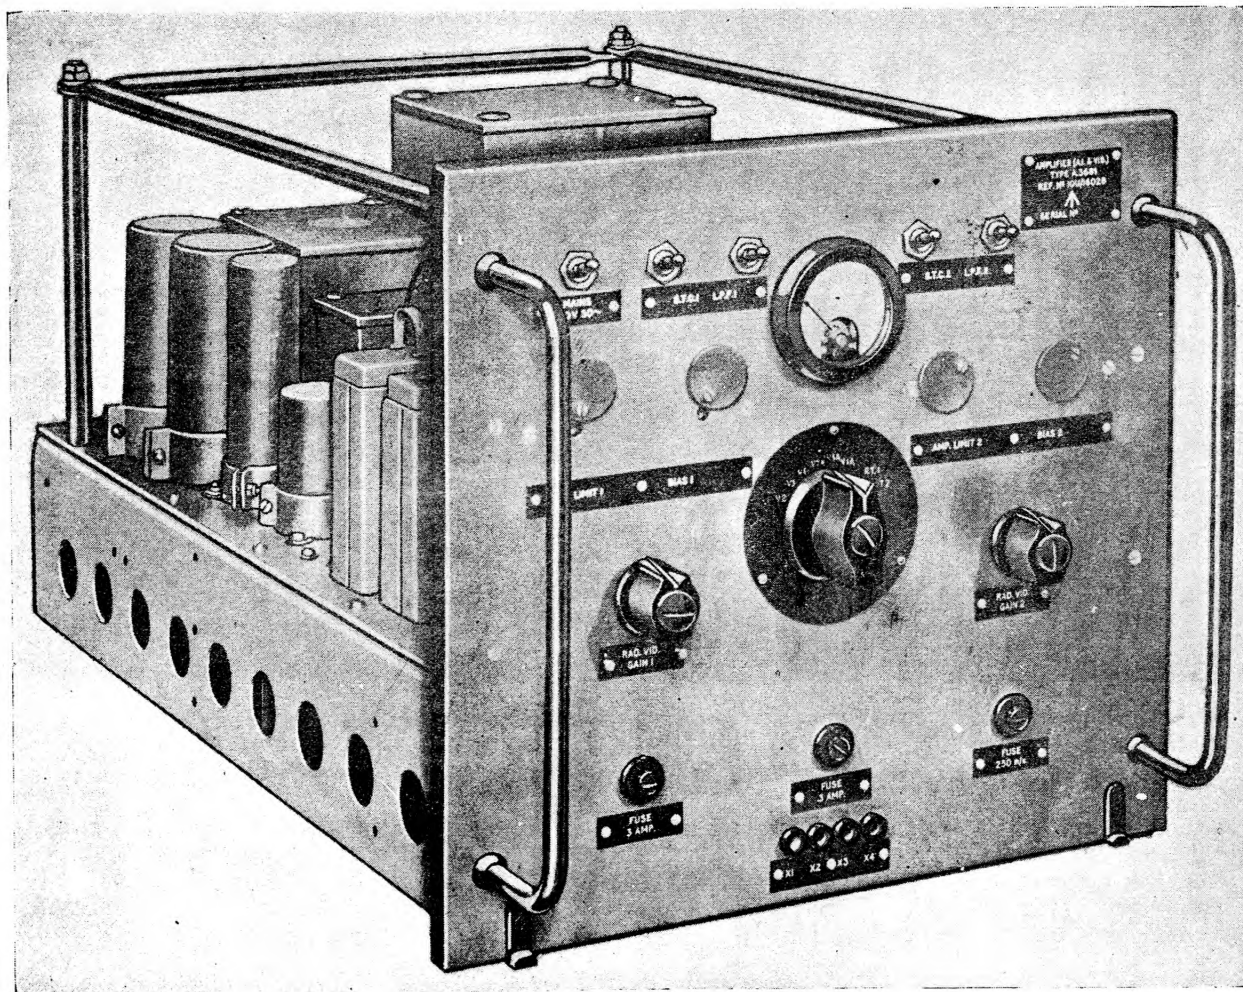

Fig. 1. Amplifier (AJ and Vid.) Type A.3681, front panel
5. There are facilities for observing valve currents and HT voltages on a meter mounted on the front panel. Signal waveforms may be displayed on an oscilloscope by connection to monitoring sockets on the front panel. Front panel, schematic, underside and plan views of the amplifier are shown in fig. 1 to 5. Annotations sufficient to locate sub-panels, etc., are included, but wherever possible components are sign-written on the chassis.